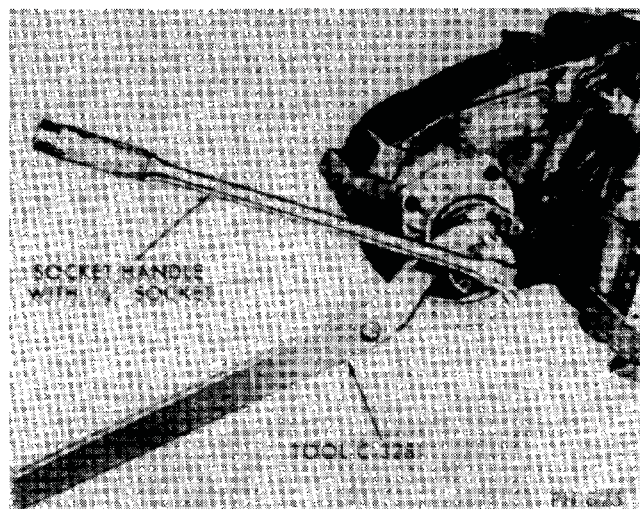

Fig. 10—Loosening Front Output Shaft Yoke Nut
(3) Using holding tool C-3281 and a 1-1/4 inch socket with suitable handle remove front output shaft yoke nut. Remove washer and yoke (Fig. 10).